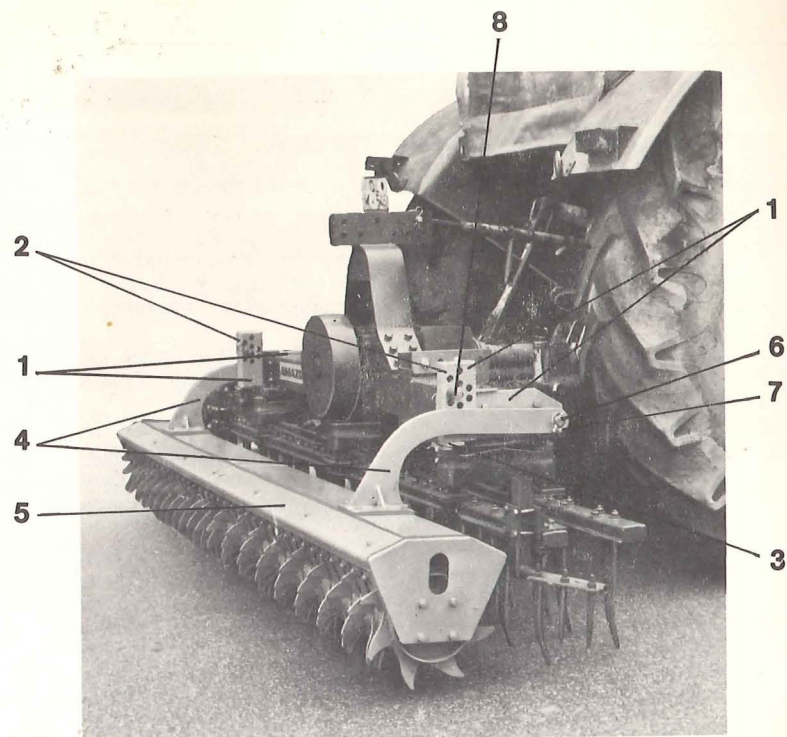

Fig. 3
The first figure of the figures given in the following text, e.g. Fig. 3/2, is the number of the illustration (Fig.) and the second figure is the number of the part in the illustration.
2. To attach the multi-packer roller to the power harrow, first fasten to the power harrow the supporting parts (Fig. 3/1) with the depth limitation plate (Fig. 3/2) behind and with the supporting arm rest (Fig. 3/3) outside. Next fit the supporting arms (Fig. 3/4) to the cover (Fig. 3/5) of the packer roller, but only loosely with the free ends pointing forwards. After connecting the packer roller to the power harrow by means of the coupling bolts (Fig. 3/6), which are secured by clevis pins (Fig. 3/7), push the supporting arms (Fig. 3/4) hard against the depth limitation plate (Fig. 3/2) of the supporting parts and fasten. Insert the marking bolts (Fig. 3/8) into the required hole of the depth limitation plate **above** the supporting arms (Fig. 3/4) for a precise setting of the working depth of the power harrow and secure with clevis pins.